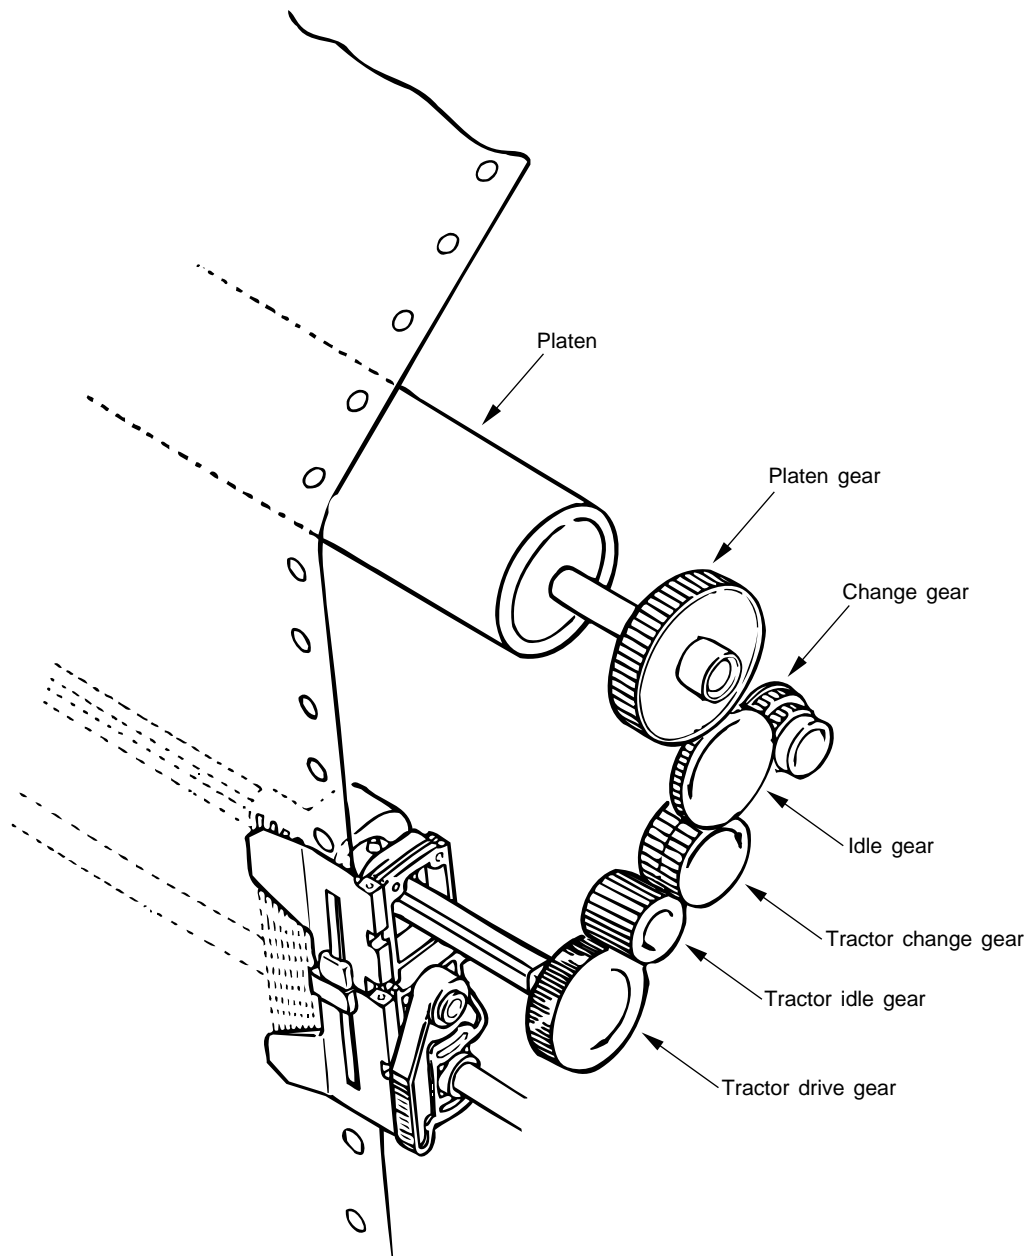

Figure 2-13
(6) Bottom push feed operation (Option) (See Figure 2-13.)